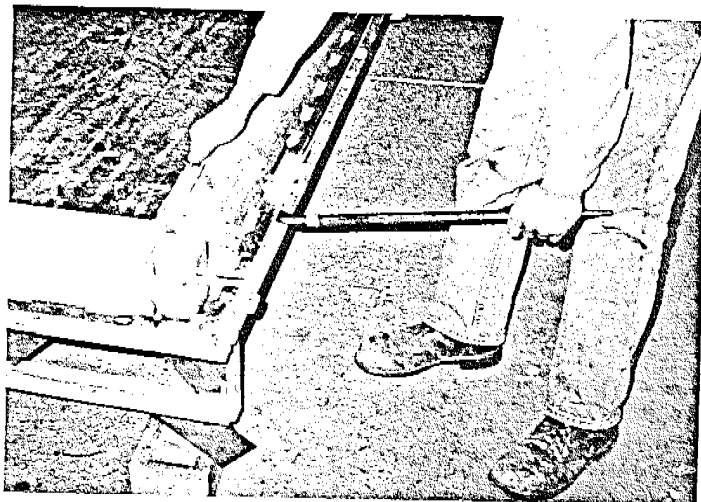

FIGURE 12
1. **INSERT BUMPER RAIL** into place and secure 2 places each bumper rail. (See Figure 12).